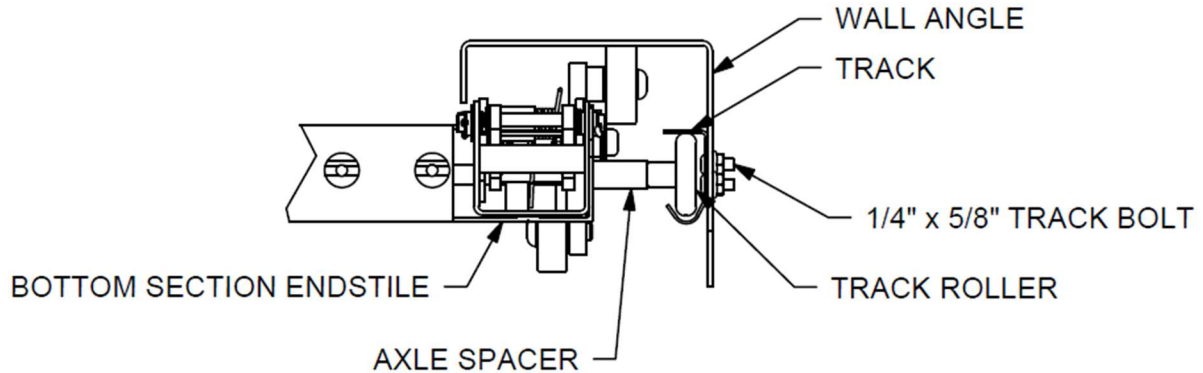

Figure 16 - RIGHT-HAND TRACK AND TRACK ROLLER SPACING
35. Place the bottom section into the opening down through the vertical track, as seen in **Figure 16**, and place section on floor.